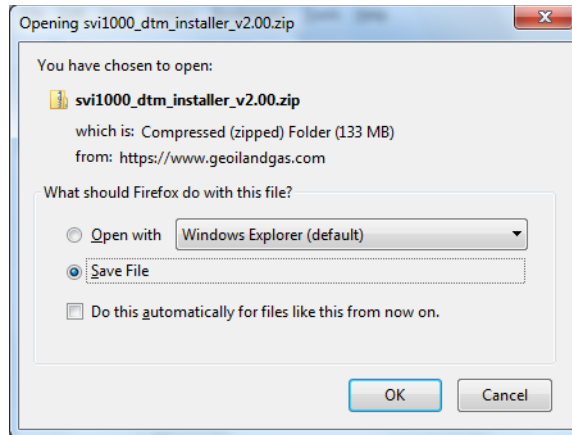

Figure 11 Opening Dialog
2. Select **Download** below *SVi1000 DTM* and Figure 11 appears.